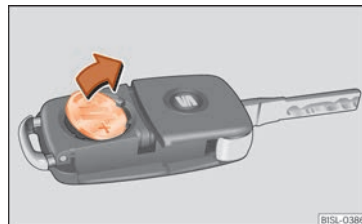

**Fig. 88** Vehicle key: remove the battery.
- Extract the battery from the compartment using a suitable thin object » **Fig. 88**.
- Place the new battery in the compartment as shown » **Fig. 88**, pressing in the opposite direction to that shown by the arrow » ❷.